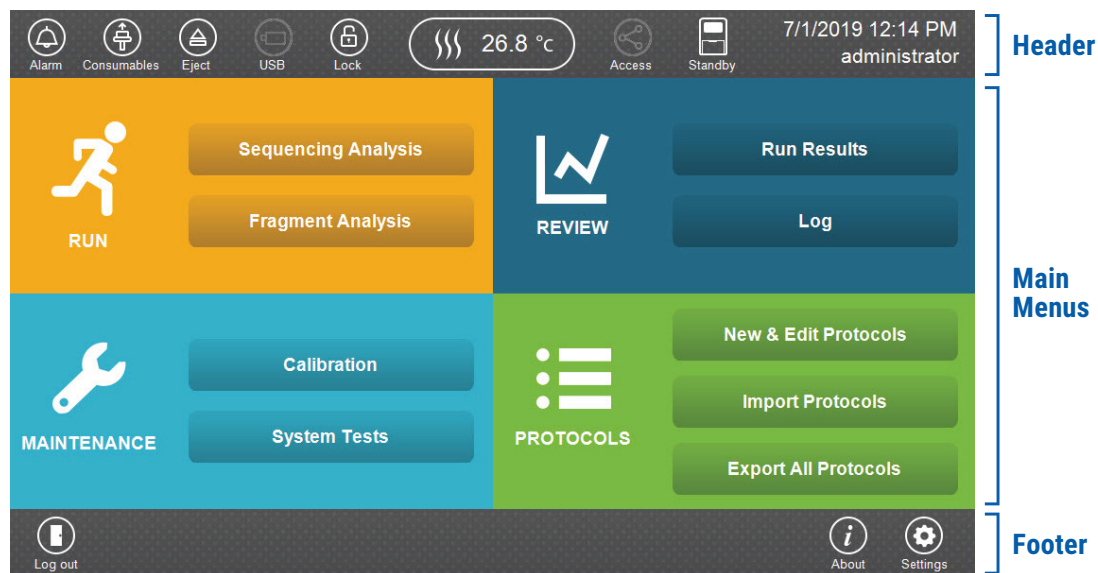
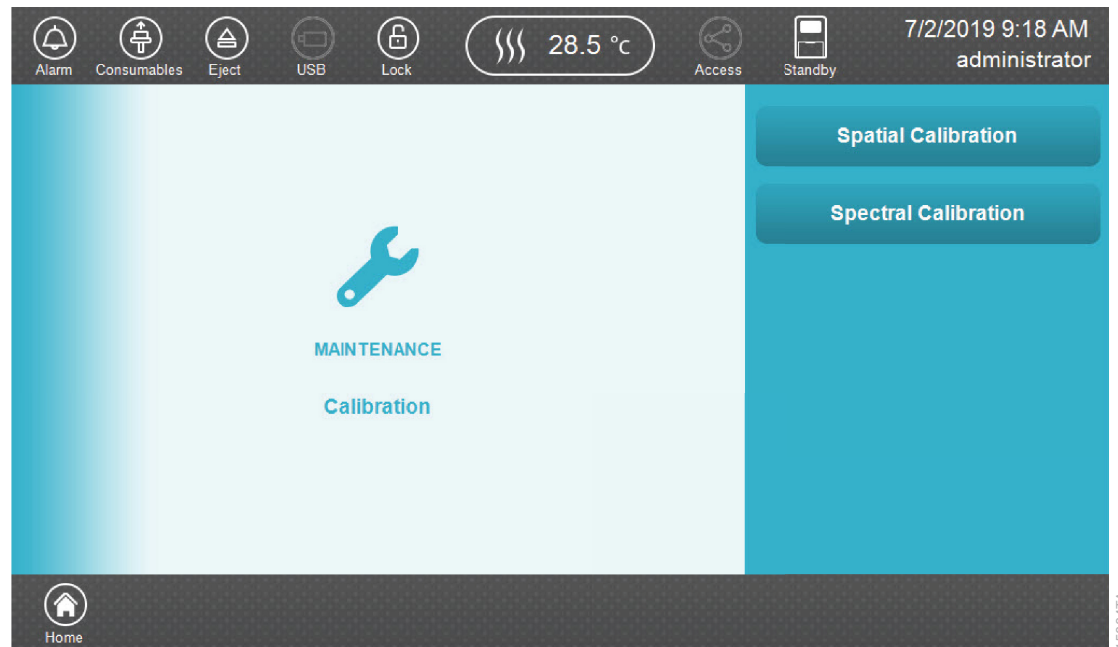

Figure 3. Spectrum Compact CE System Software 'Main Menu' screen.
Figure 5. 'Maintenance Calibration' screen.
- Select the **Consumables** icon in the Header on the 'Main Menu' screen (Figure 3). Ensure that the consumables are not expired and that adequate injections remain for consumables installed.
3. Select **Calibration** on the maintenance portion of the 'Main Menu' screen (Figure 3) then select **Spectral Calibration** on the 'Maintenance Calibration' screen (Figure 5).